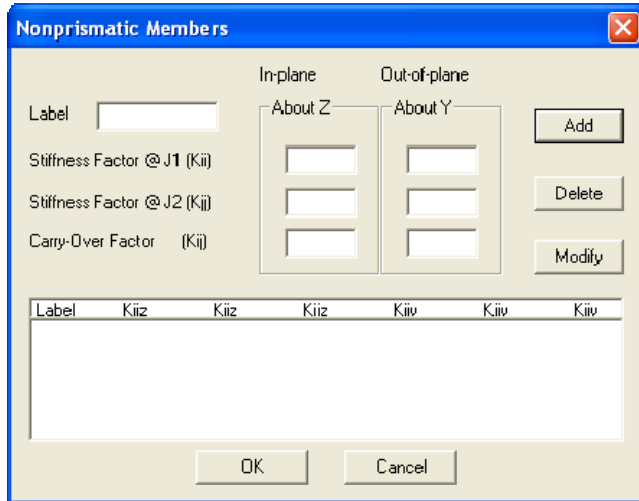

Figure 3-15 Nonprismatic Members dialog box
- From the Define menu, select Nonprismatic Members. The dialog box of Figure 3-15 appears.